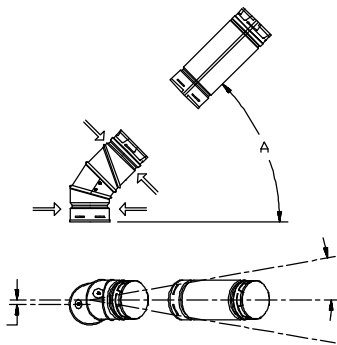

Figure 21
**4. 45° Offsets with 90° Elbows.** *Figure 21* shows a 90° Adjustable Elbow being utilized to accomplish a 45° offset. This Elbow is completely adjustable from 0° to 90°. Please note that the centers of the upper sections tend to displace by a slight amount, as they are rotated. Again, screws (not longer than 1/4") may be used to secure the joint. Wall Straps should also be utilized to enhance the stability of the vent system.